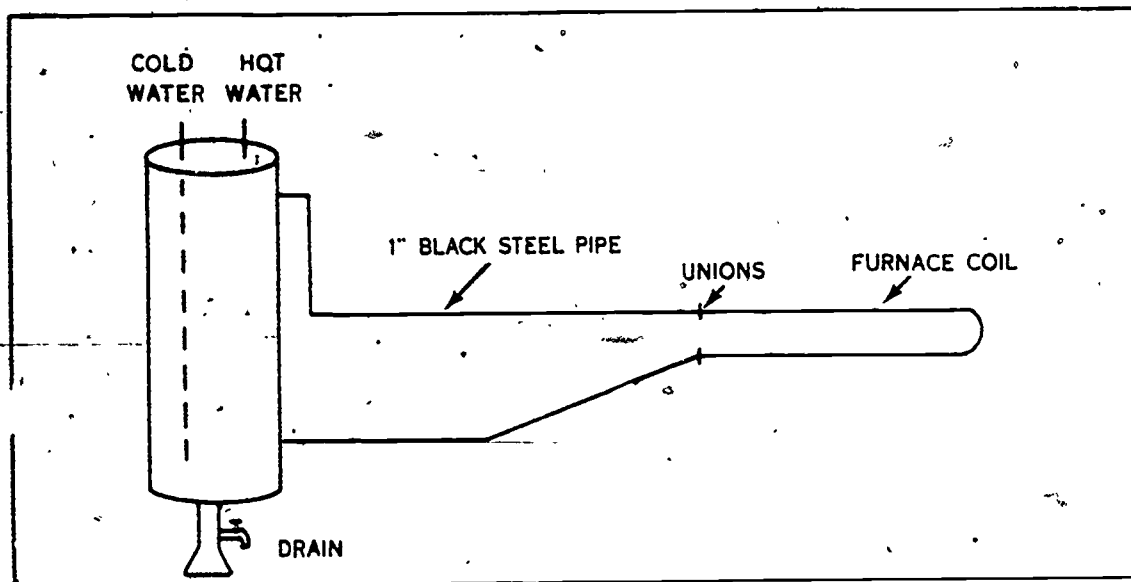

Figure 5-2. Furnace coil hot water system.
**Furnace coil heater.** Most furnace coils are constructed of black steel pipe, usually 1 inch in diameter, formed in the shape of a "U," as shown in figure 5-2. This is the most commonly installed heating device. This does not mean that it is the most efficient type of heating unit. The furnace coils are placed in the firebox of a heating furnace directly above the live fire. The water circulates through the coils, which heat the water as it is used from the faucet. This type of heating device is used more commonly in the Northern States where homes are equipped with coal-burning basement type heating furnaces.